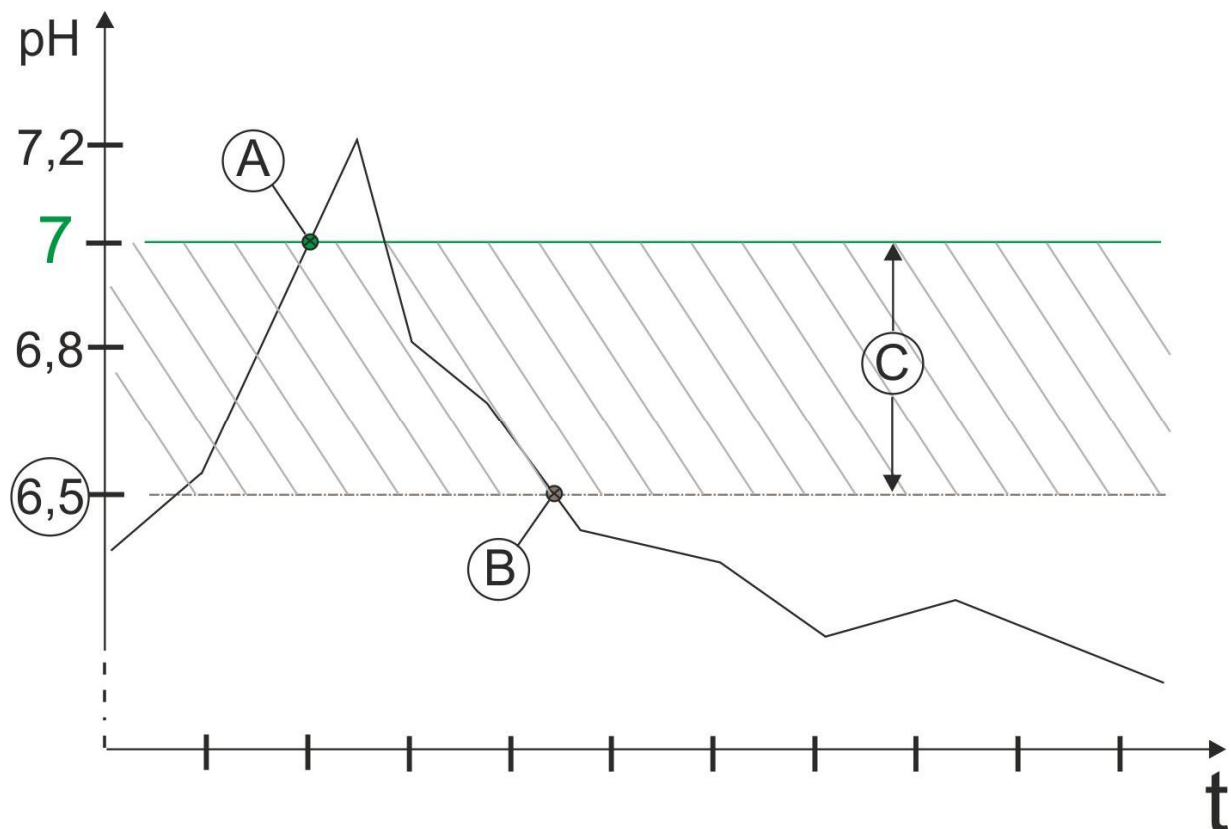

Figure 1 High Setpoint
- The values of an exceeded **HIGH** Setpoint with date/time (see figure 1, Values A and B)